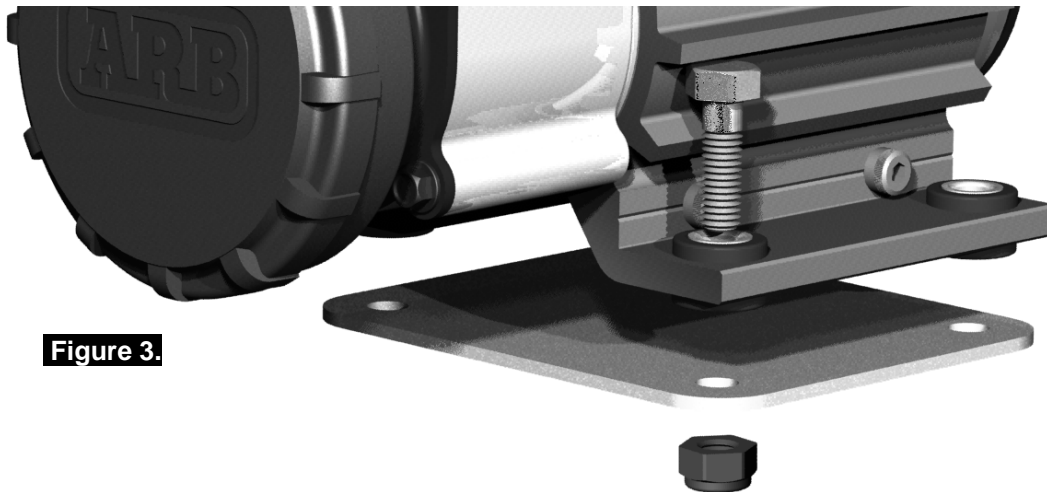

Figure 3.
- ☐ Install the locking nuts with the nylon locking flange facing away from the backing plate (as shown in Fig 3.). Tighten to a torque of approximately 3.5 Nm [2.5ft-lb].